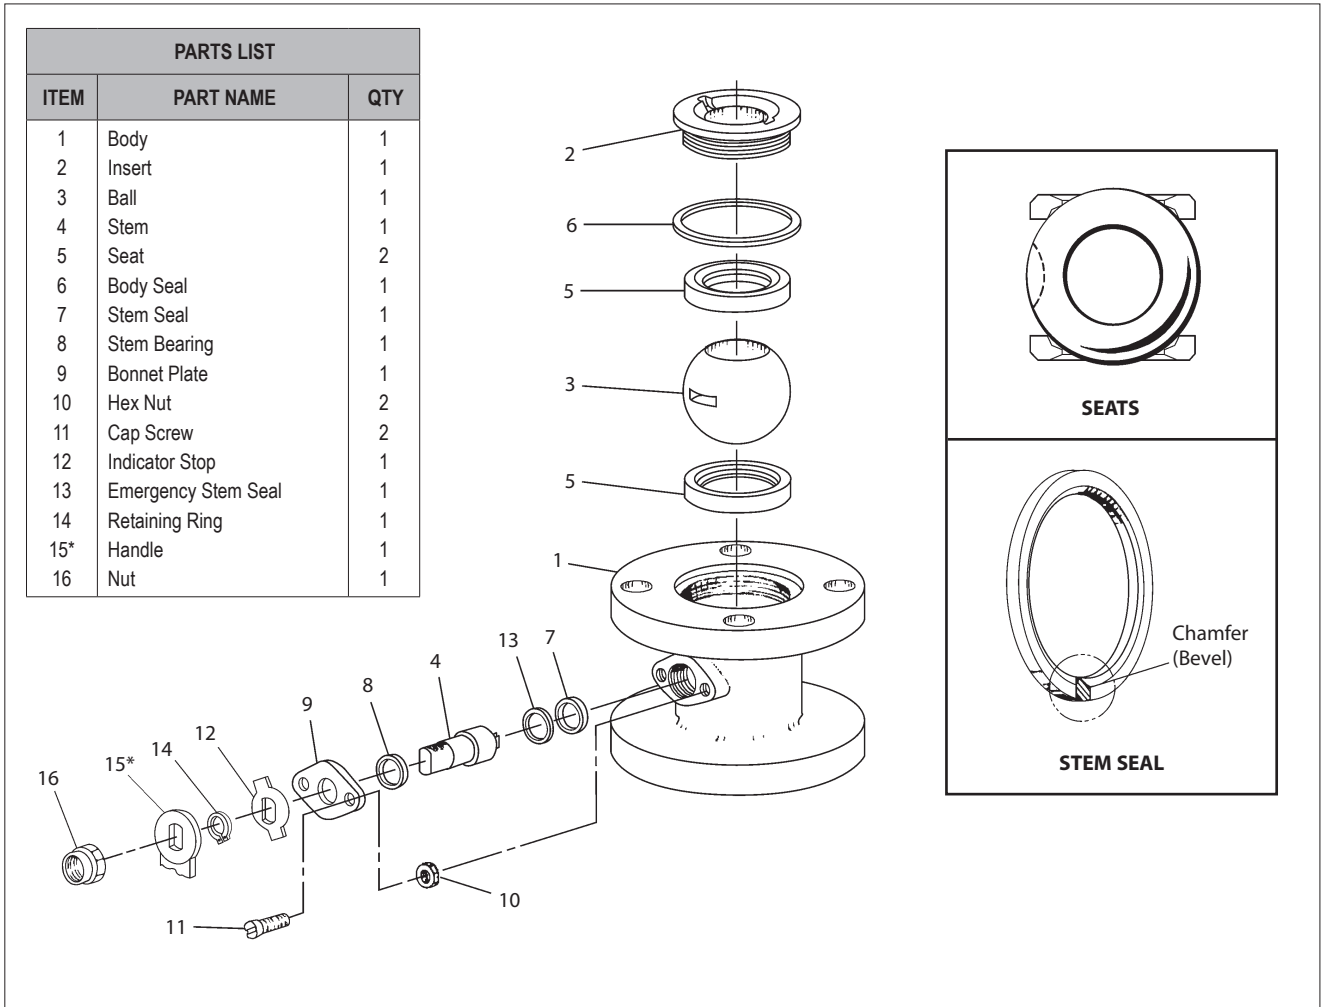

Figure 2.
1. Slide the first valve seat (5) into the body (1) to below the stem opening, and tilt it into place so that the proper surface (**see picture in Figure 2**) will be adjacent to the ball (3).
2. Place the ball (3) into the valve in the open position, and adjust so that the slot faces the stem opening. Insert the stem (4) as a temporary means of holding the ball, and turn the ball to the closed position.
3. Insert the second seat (5) into the body, again with the proper surface adjacent to the ball. Insert the body seal (6) into the machined sealing area of the body with the chamfer on the I.D. facing away from the ball.
4. Thread on the insert (2) and screw down until tight.
5. Remove the stem, and insert emergency stem seal (13) and the stem seal (7) into the stem hole with the chamfer on the I.D. facing down. Lubricate the stem with a compatible lubricant and insert it. The stem should be tapped into place gently to avoid cutting the PTFE stem seal.
6. Drop the stem bearing (8) over the stem.
7. Place the bonnet plate (9) over the stem and secure it with the cap screws (11).
8. Tighten the cap screws until they make contact with the bonnet plate: then, tighten another 3/4 of a turn. Tighten nuts (10) against the top of the bonnet area to prevent the cap screws from backing out.
9. Place the handle (15) on the valve stem and rotate the ball slowly with a gentle back and forth motion to build gradually to the full quarter turn. By rotating slowly, the seat lips will flow into place to maintain a permanent seal against the ball. A quick turning motion at this point may cut the seats before they have a chance to flow into place.